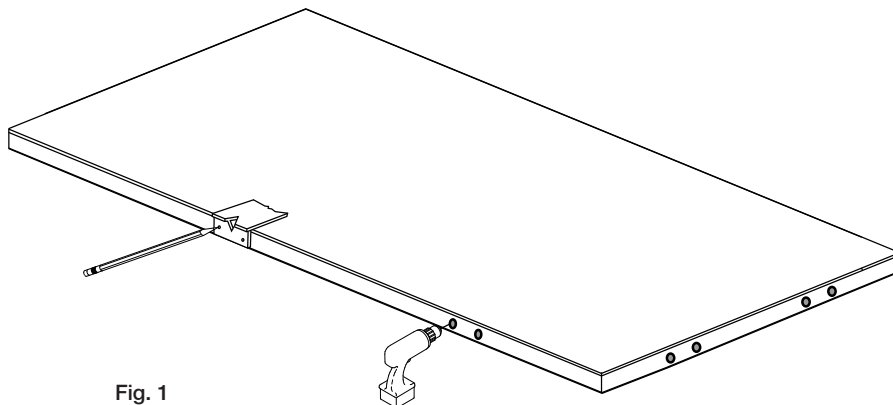

Fig. 1
2. Pre-drill the marked hole locations with a 9/64" drill bit. This step must not be skipped, regardless of edgebanding material. Note: veneer edgebanding will split if not pre-drilled appropriately. Holes should be pre-drilled to depth. (Fig. 1)